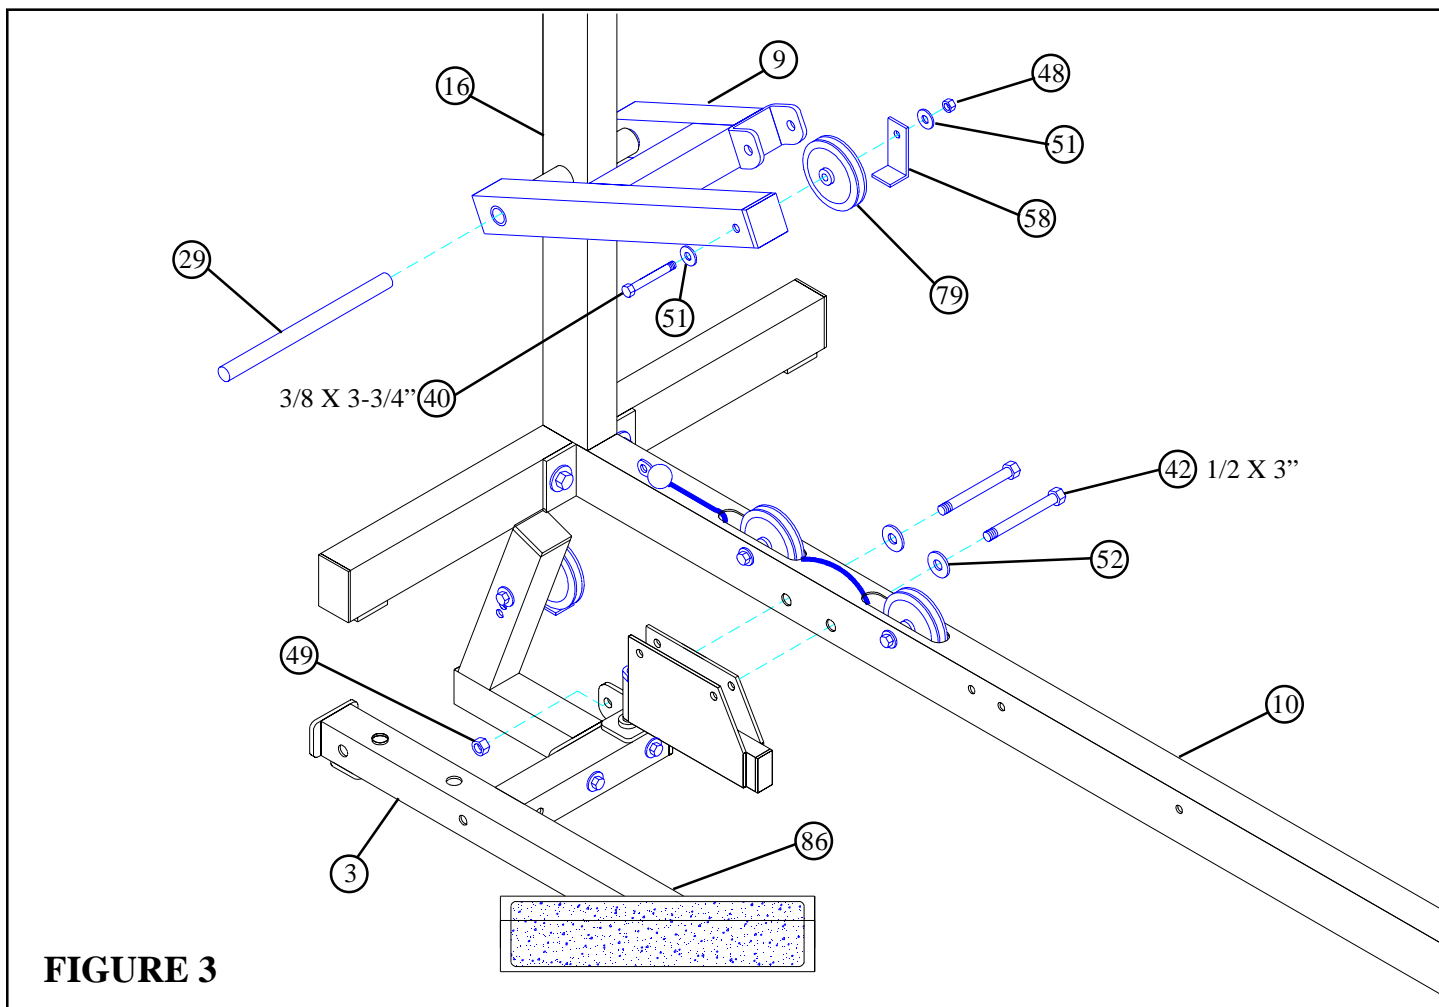
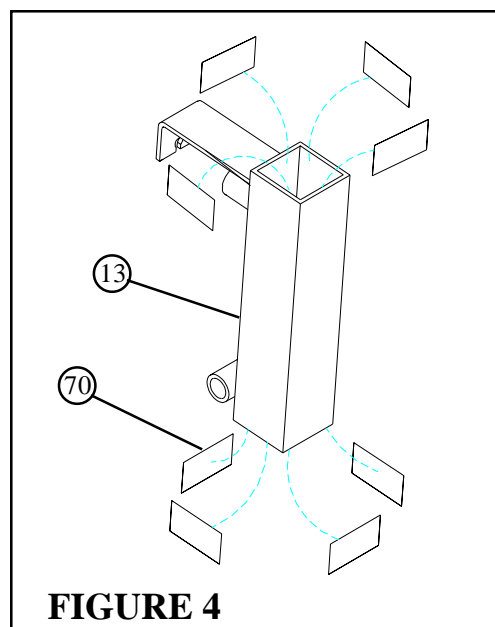

FIGURE 3
FIGURE 4
- Securely attach WEIGHT STACK BASE (3) to BASE (10) using two 1/2 X 3" BOLTS (42), two 1/2" WASHERS (52), and one 1/2" LOCKNUT (49).
- Slide one 3/4 DIA X 11" SHAFT (29) through PRESS ARM LEVER (9) & tube on REAR UPRIGHT (16). See FIGURE 3.
- Securely assemble one 3-1/2" PULLEY (79) to PRESS ARM LEVER (9) using one 3/8 X 3-3/4" BOLT (40), two 3/8" WASHERS (51), one 2-3/8" RETAINING CLIP (58), and one 3/8" LOCKNUT (48).
- Apply eight 1-3/4 x 3/4" PARAGLIDES (70) to the INSIDE of RECEIVING TUBE (13) as shown in FIGURE 4. (NOTE: Thoroughly clean the inside surface before attaching PARAGLIDES.)